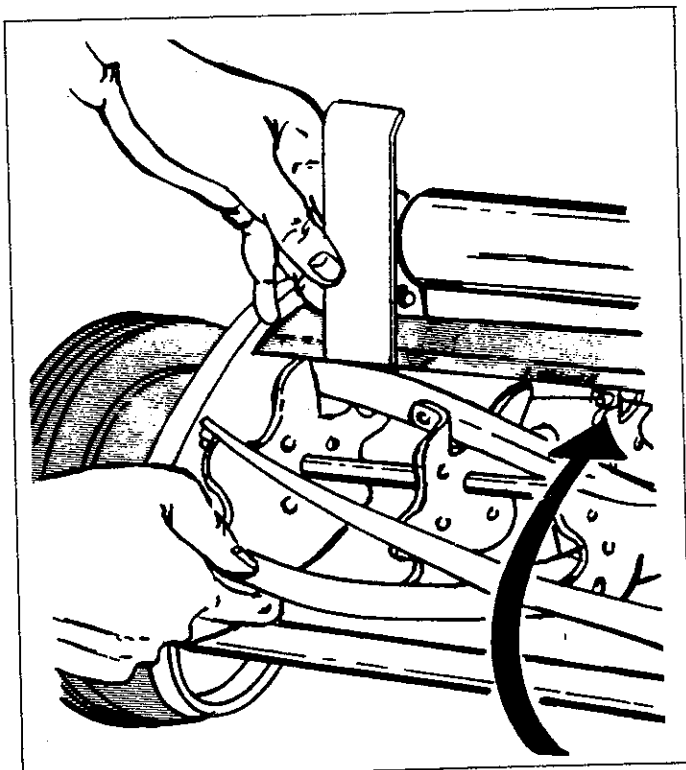

FIGURE 10
3. Turn the reel slowly as shown in figure 10. The paper should be cut cleanly, without the blades contacting the cutter bar.